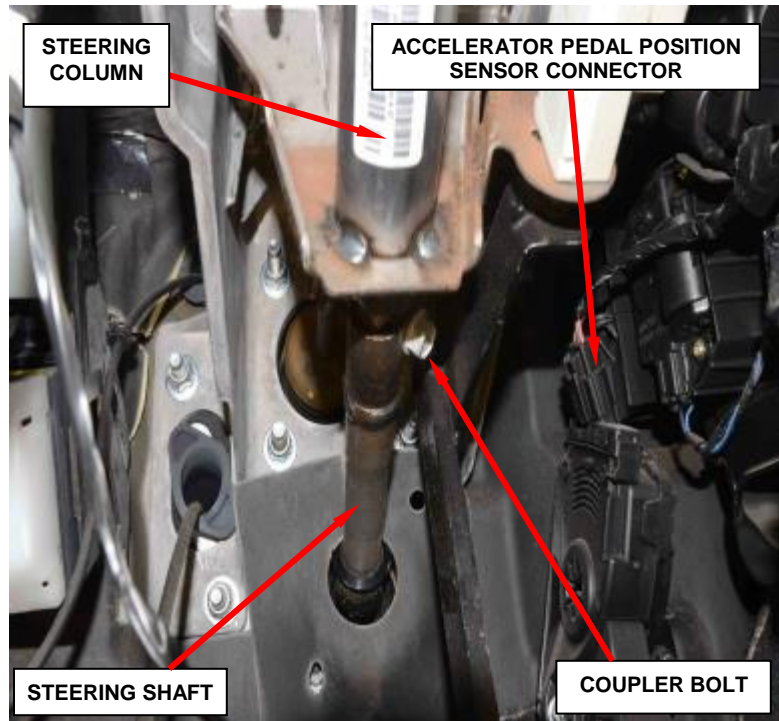

Figure 106 – Steering Shaft Coupler
- a. Disconnect the accelerator position sensor electrical connector (Figure 106).
14. Remove and **discard** the upper steering shaft coupler bolt from the column (Figure 106).